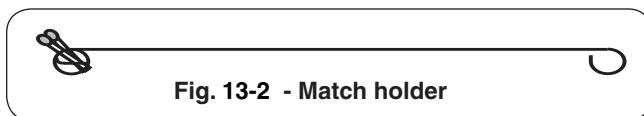

Fig. 13-2 - Match holder
2. Insert either a burning long-barrel butane lighter, a burning long-stem match, or a burning match held by a wire extension holder (Fig. 13-2) through the cooking grids to the burner (Fig. 13-3). For backburners, hold the flame against the perforated material of the backburner. For sideburners, hold the flame against the burner.